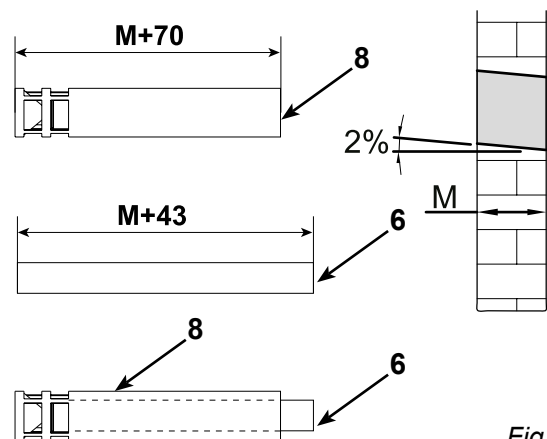

Fig. 5.7
2. Draw the hole for the exhaust and, if possible, make it with a 2% inclination outwards the wall (see fig 5.7).
1. Drilling the wall, when the hole is done, measure the thickness of the wall (M).
2. Cut the suction pipe (8) 70 mm longer than the thickness of the wall (M) and from the side opposite the terminal (see fig. 5.7).
3. Cut the exhaust pipe (6) 43mm longer than the thickness of the wall (M) (see fig. 5.7).